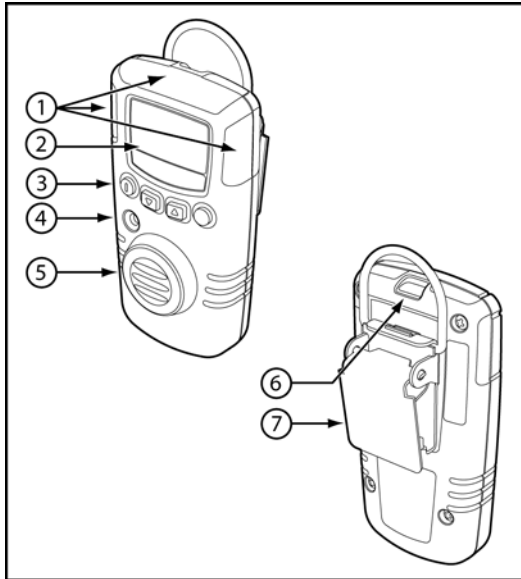

Figure 1. GasAlert Extreme Detector
- Figure 1 and Table 3: GasAlert Extreme Detector (describes the detector's components).